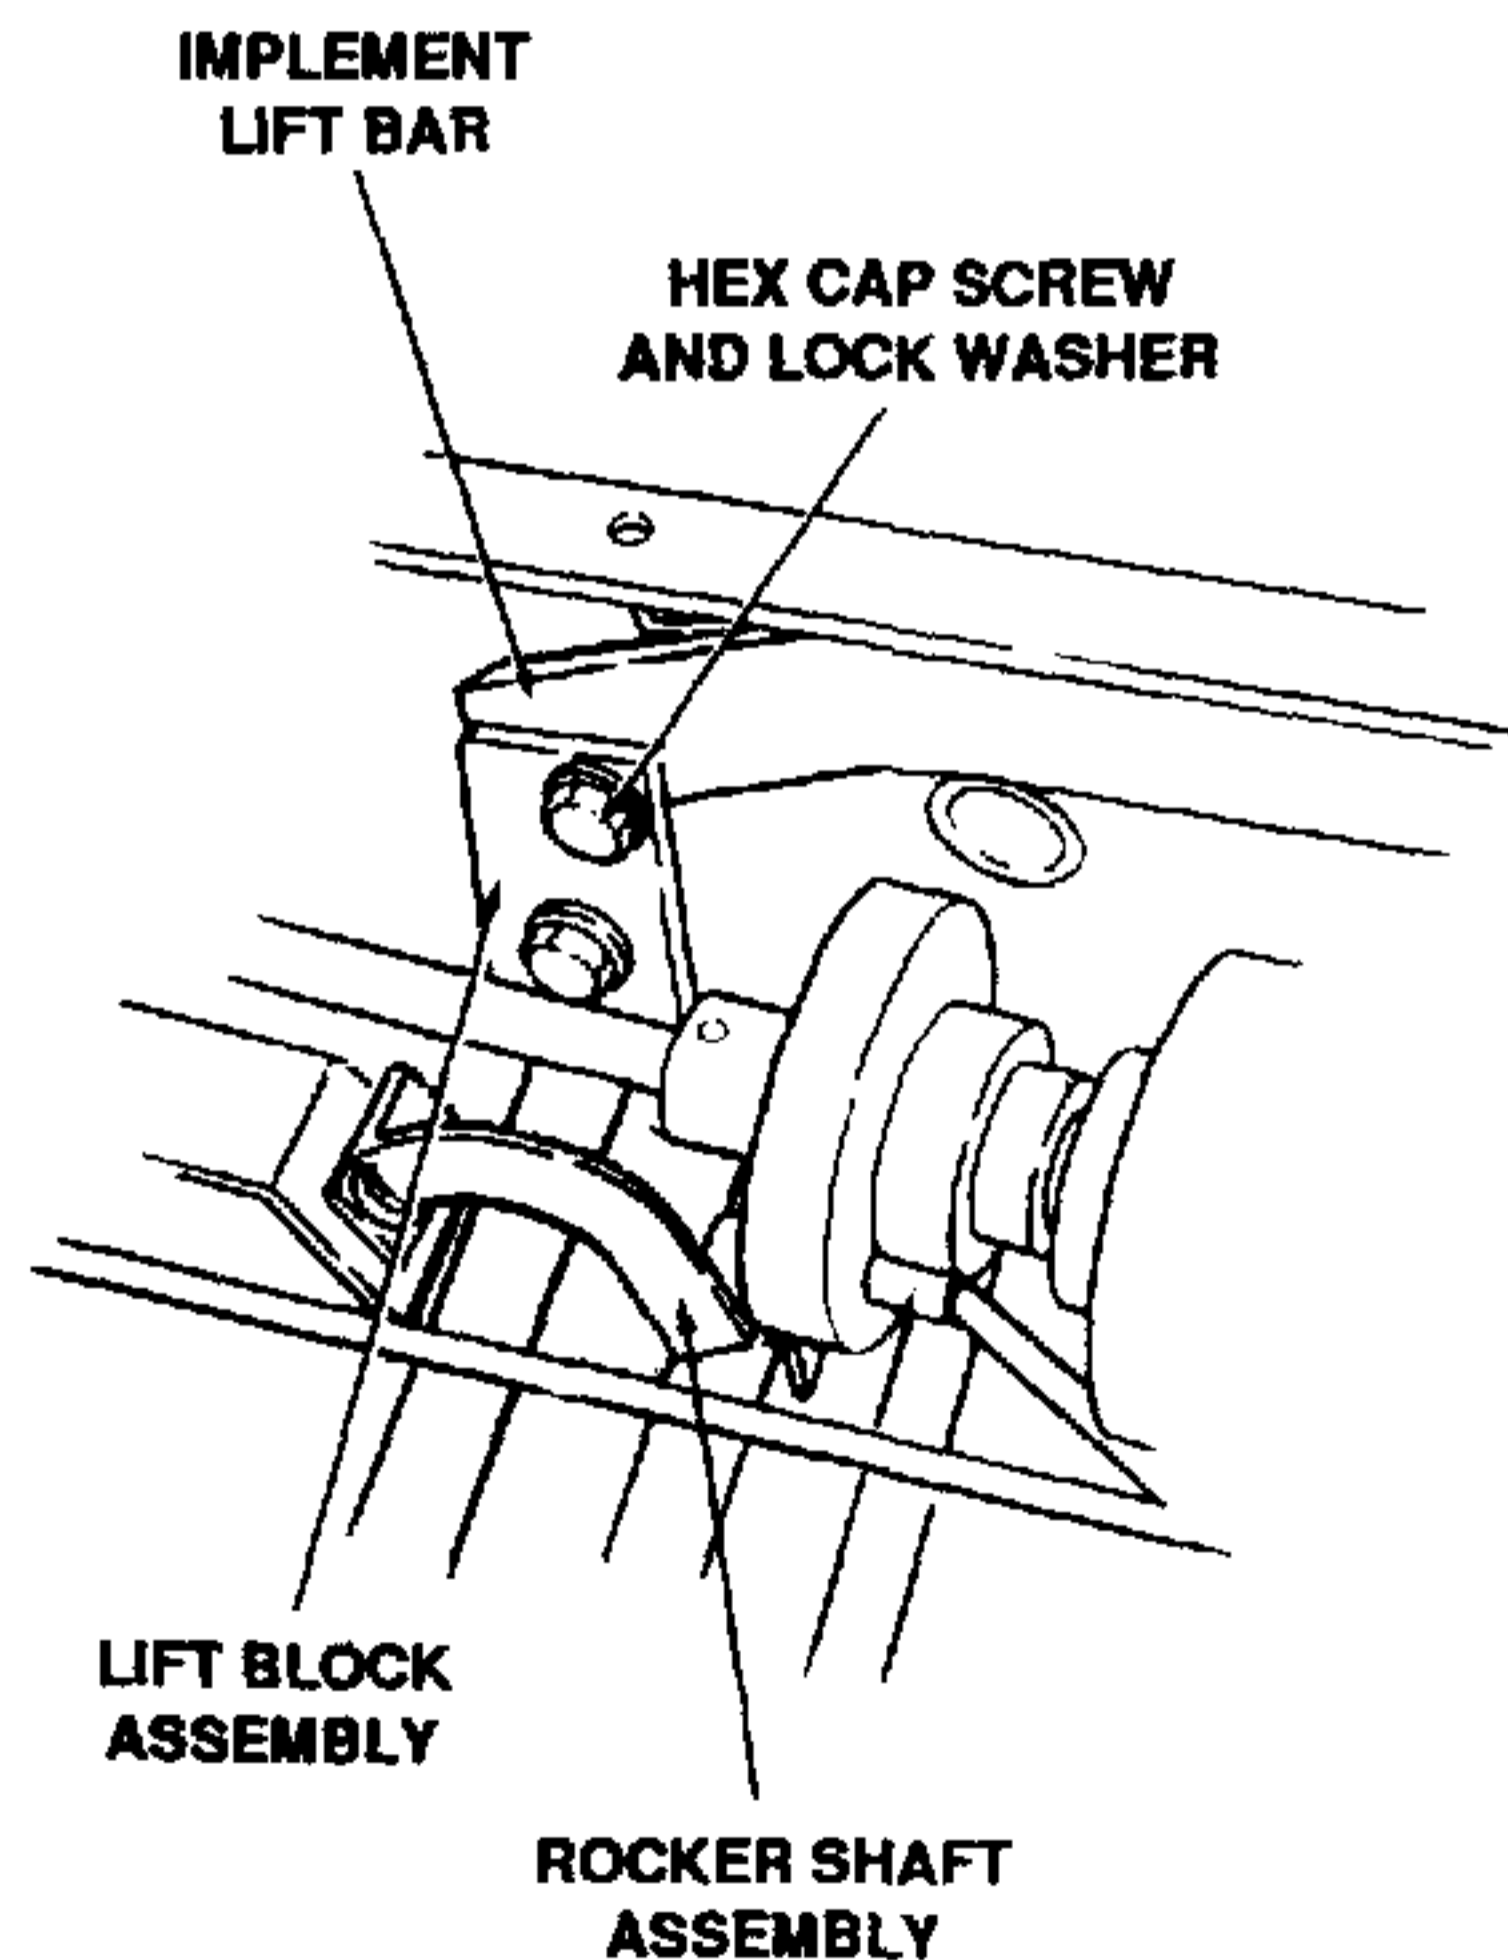

Figure 7-53. Connecting Implement Lift Bar (Model 388 Only).
- 4. Connect front end of implement lift bar (2, Figure 7-41) as follows (applies to Model 388 only). Align holes in lift block assembly with rocker shaft assembly and secure with two 3/8-16 x .88-inch long hex cap screws (13, Figure 7-40) and 3/8-inch lock washers (2). Refer to Figure 7-53.